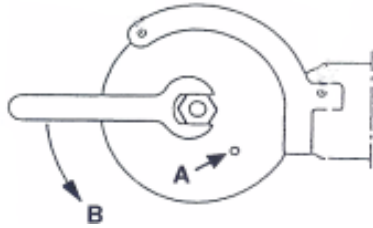

Figure 3: Loosening the saw blade
- Loosen the wing nut (F).
- Pull the depth stop (T) out of the pivot point (X).**EFA SK30/ 18:** Saw blade changing with installed safety hood.
2. Insert the retention pin supplied into the saw blade bore (A) as a twist lock and turn the saw blade until the retention pin contacts the safety hood (see Fig. 3)
- Remove the hex. nut using the single-head wrench supplied - turn in anti-clockwise direction (arrow B). (see Fig. 3)